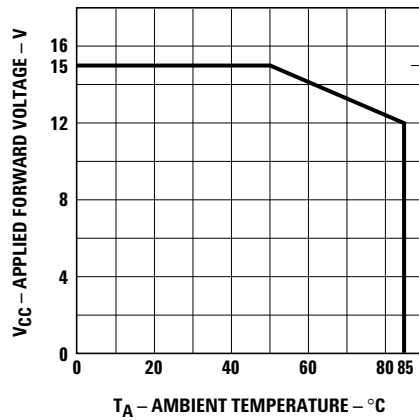

Figure 4. Maximum allowed applied forward voltage vs. ambient temperature $R\theta_{JA} = 175^{\circ}\text{C/W}$. 12 volt devices.
3. Derate from $T_A = 50^\circ\text{C}$ at $0.086\ \text{V}/^\circ\text{C}$, see Figure 4.